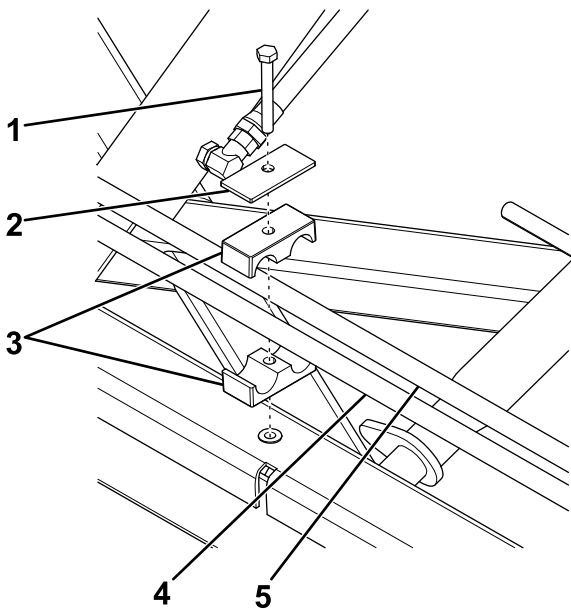

Figure 12
7. Route the long hoses connected to XR1 and XR2 on the hydraulic manifold to the right side of the plow, and loosely secure them to the center blade using a hose clamp, clamp plate and bolt (5/16 x 2-1/2 inches) as shown in Figure 12.